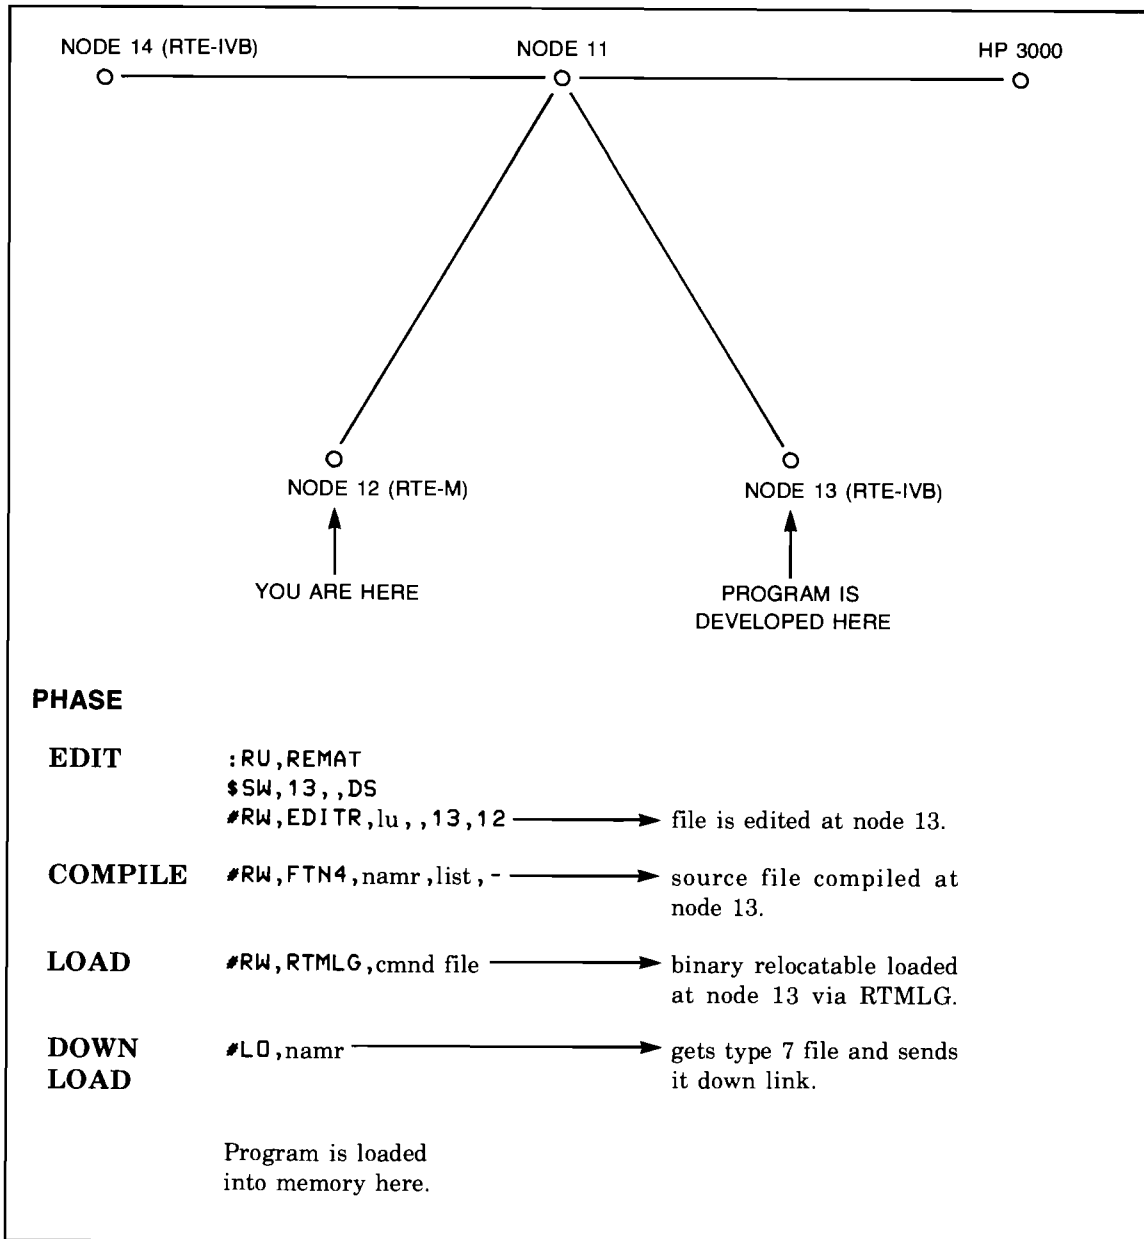

Figure 7. Remote Program Development From An RTE-M
From the RTE-M node you would first run REMAT (see Figure 7), issuing the correct parameters so that a communication link is created with a node containing an editor (node 13 in our example). You would then schedule with wait (RW) the editor located at the remote node. From your local node, you may perform all the editing steps needed in modifying or creating a program file.